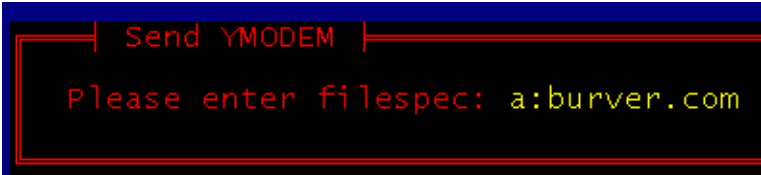

Figure 6-4 Using Procomm YMODEM Batch
5. Use the **yload** command to download. In order to do the file transfer, see Figure 6-4 "Using Procomm YMODEM Batch"
Please start YModem transmission now or press <ESC> // see Figure 6-4 "Using Procomm